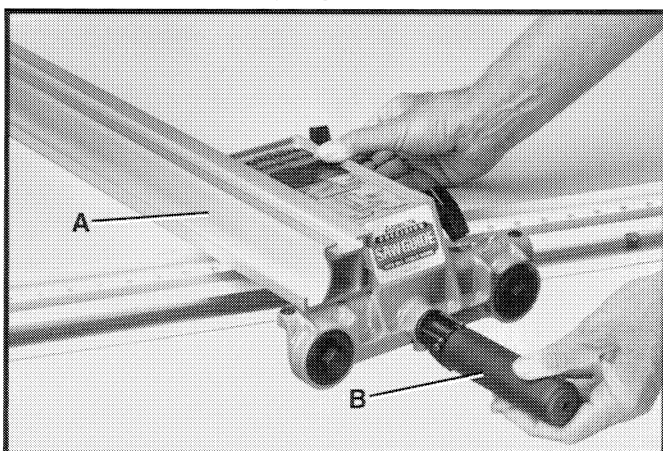

Fig. 74
6. To remove the fence and fence body assembly (A) Fig. 74, from the guide rail, lift up fence clamping lever (B) and turn lever to the left indent position. The fence assembly (A) can then be pulled straight off the guide rail and removed, as shown in Fig. 74.